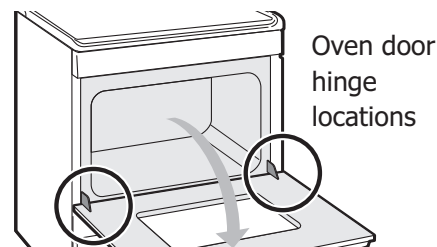

Figure 12: Door hinge location
1. Open oven door completely, horizontal with floor (See Figure 12).
3. Fully open the oven door, horizontal with floor (See Figure 12).